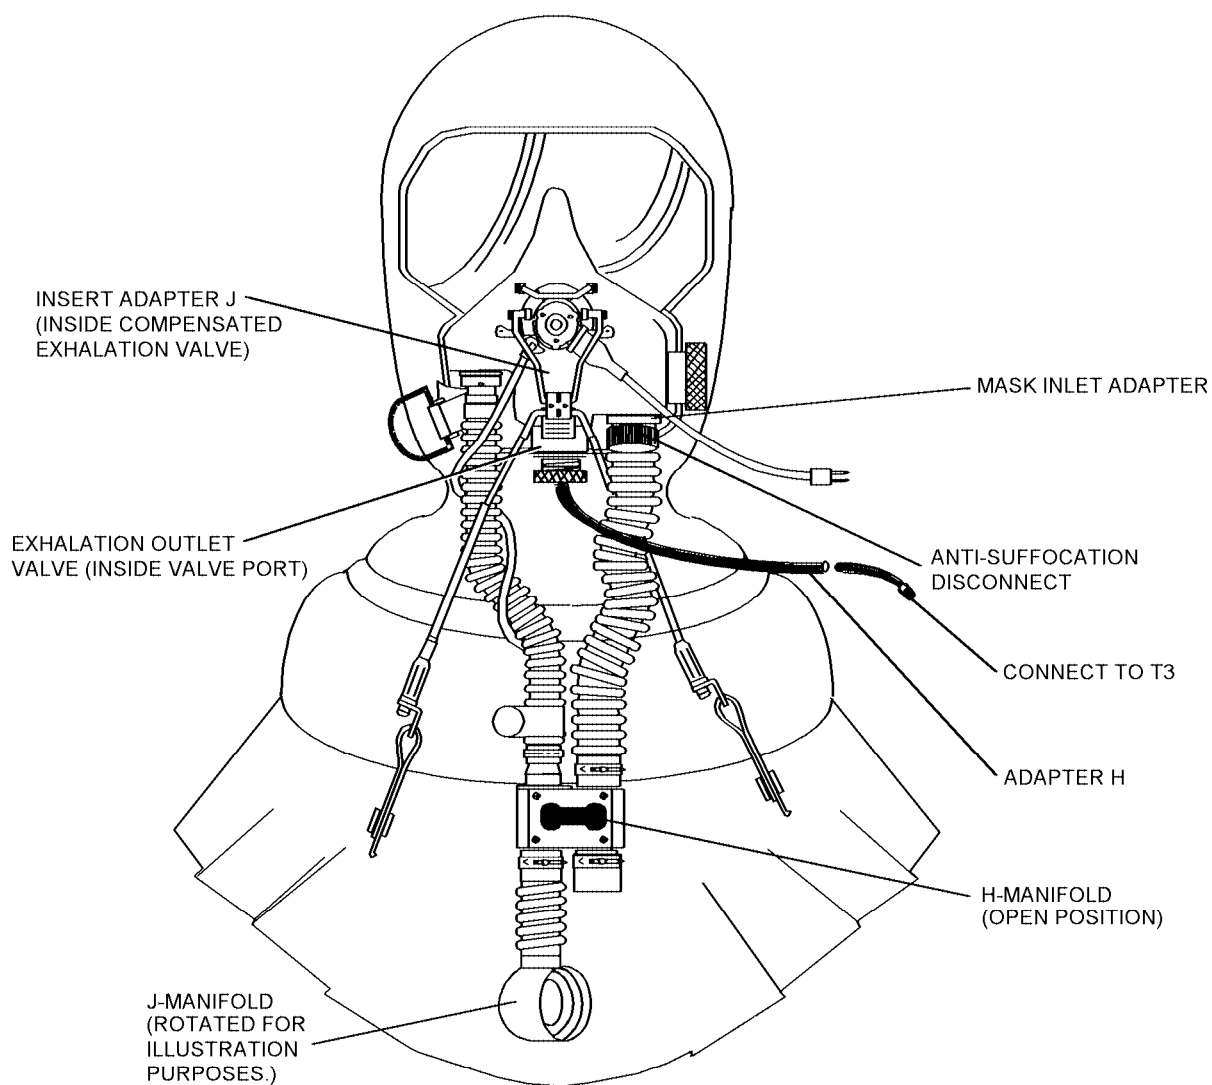

Figure 4-82. (V)1 Variant - Non-Oxygen Exhalation Outlet Valve - Reverse Leakage Test
4. Slowly push adapter H into exhalation valve port. Push straight-in until O-ring is no longer visible (figure 4-82).